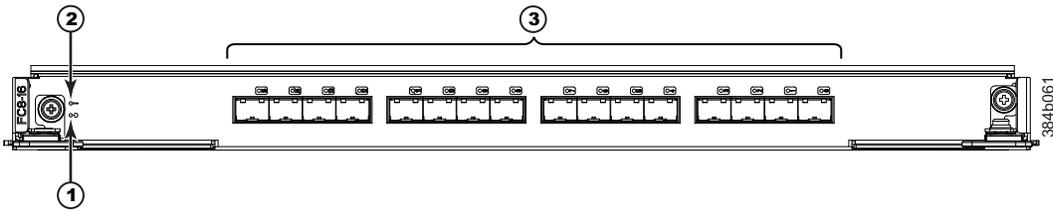

Figure 54. FC8-16 port blade
- Figure 54 shows an FC8-16 port blade